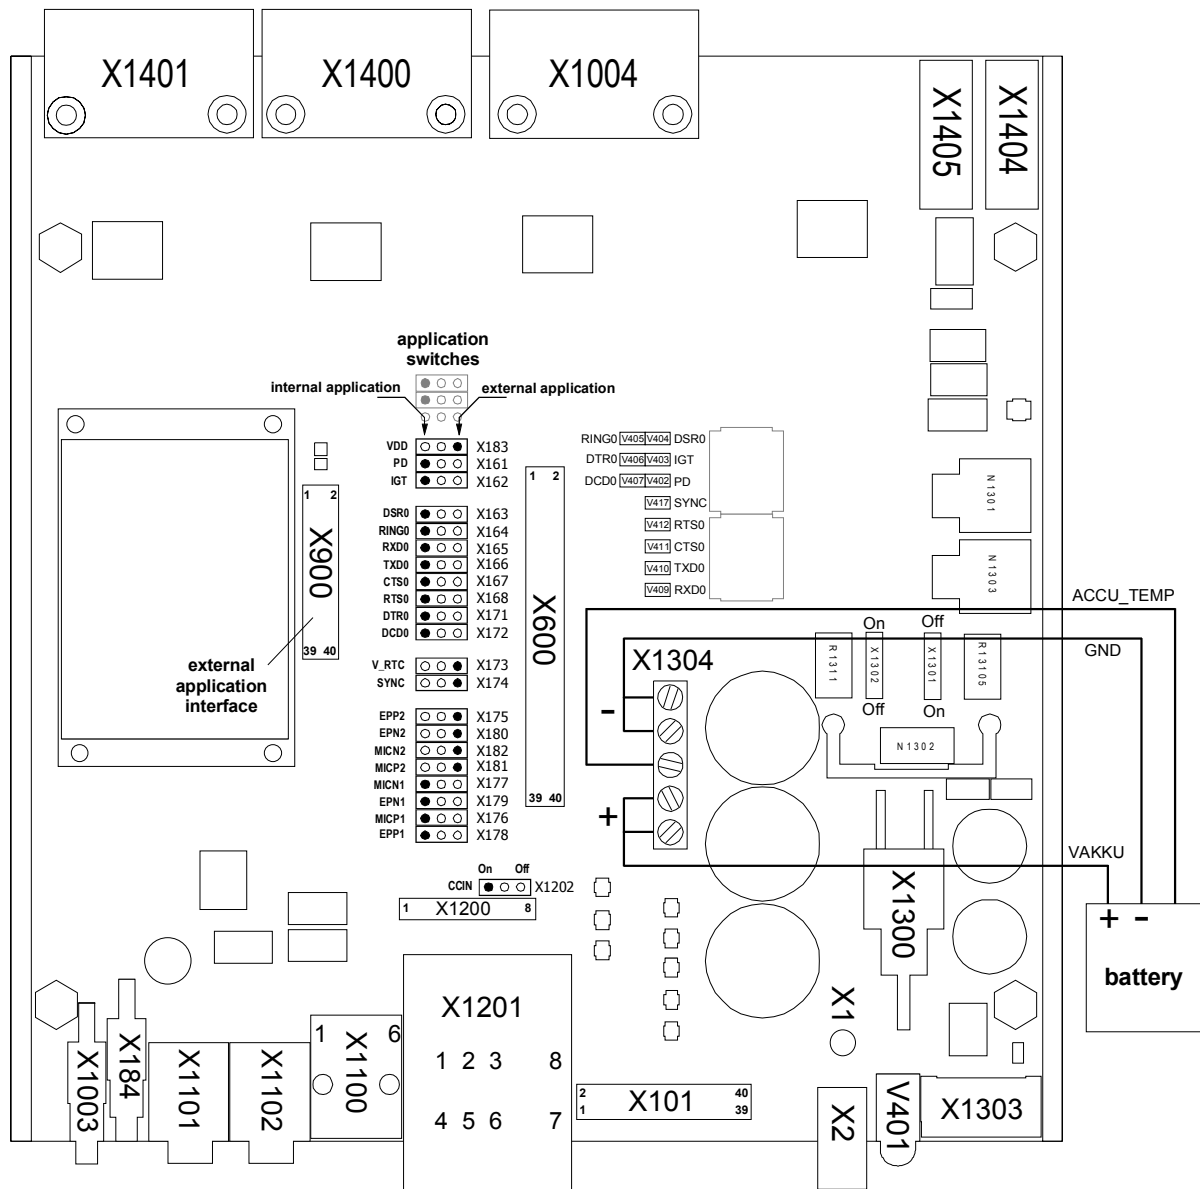

Figure 40: DSB35 board interfaces
*The laboratory PSU connects to the 4mm X1404 and X1405 jacks illustrated in Figure 40.*
To vary the supply voltage the DSB board uses the two R1311 and R1305 potentiometers. Both can be easily adjusted with the X1301 and X1302 slide switches and a screw on each potentiometer. The position of the switches and the potentiometers can be gathered from Figure 40. For further details on the slide switches and the generated supply voltage please refer to the DSB35 manual.